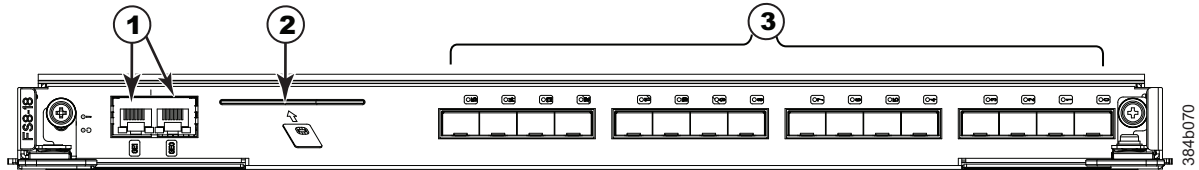

Figure 59. FS8-18 encryption blade
- Figure 59 on page 153 shows an FS8-18 encryption blade